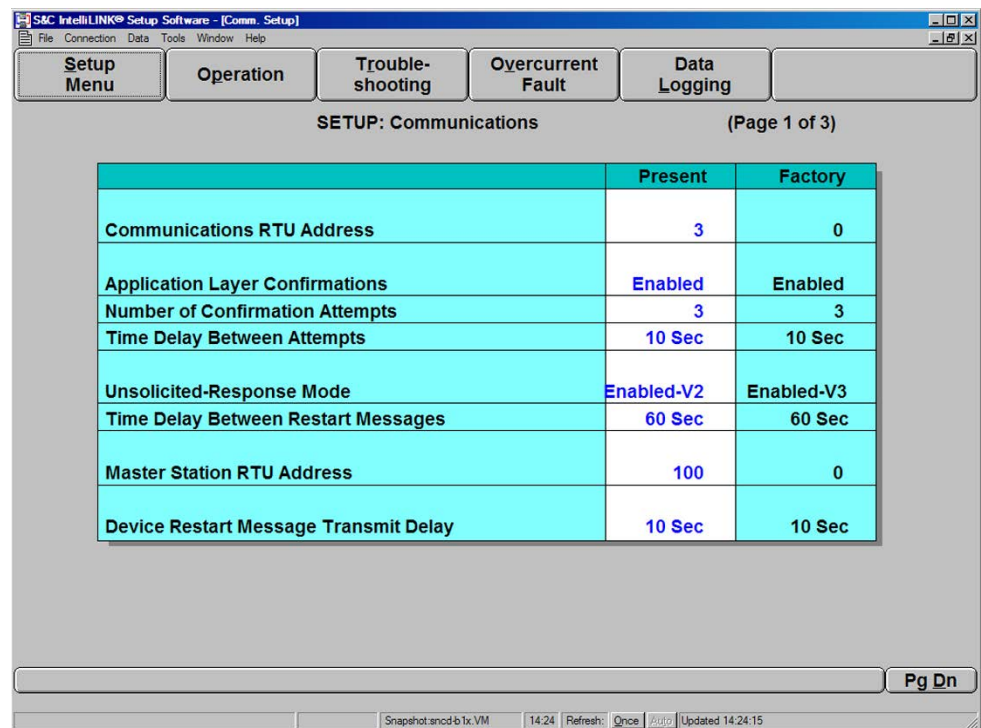

Figure 17. The *Setup>Communications* screen, page 1.
STEP 8. At the *Setup Menu* screen, click on the **Communications** button to display Page 1 of the *Setup>Communications* screen. See Figure 17. Enter the correct values for this switch control.